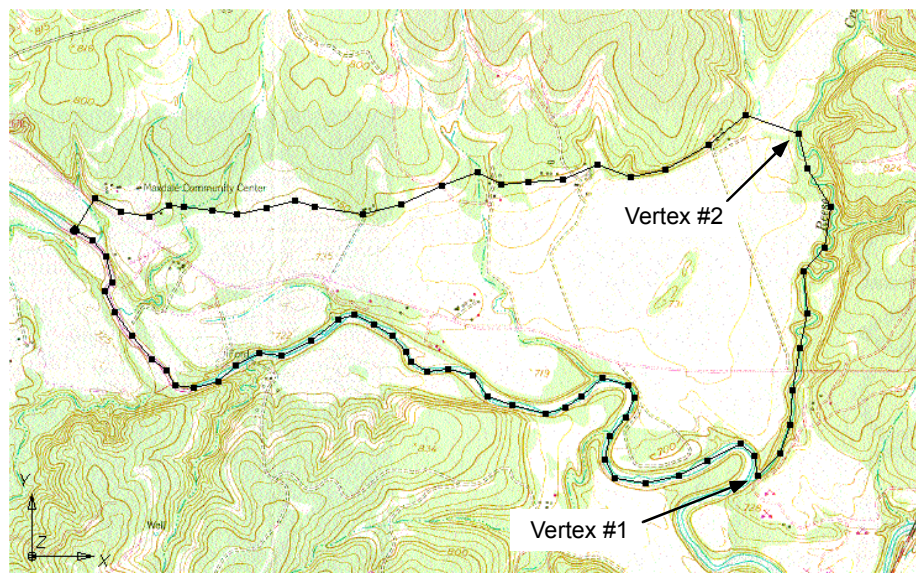

Figure 3. Convert Vertices to Nodes.
2. Select the two vertices shown in Figure 3. Vertex #1 is located at the junction of the two rivers. Vertex #2 is located at the top of the river on the east side of the model. To select both vertices at once, select the first vertex and then hold down the *Shift* key while selecting the other vertex.